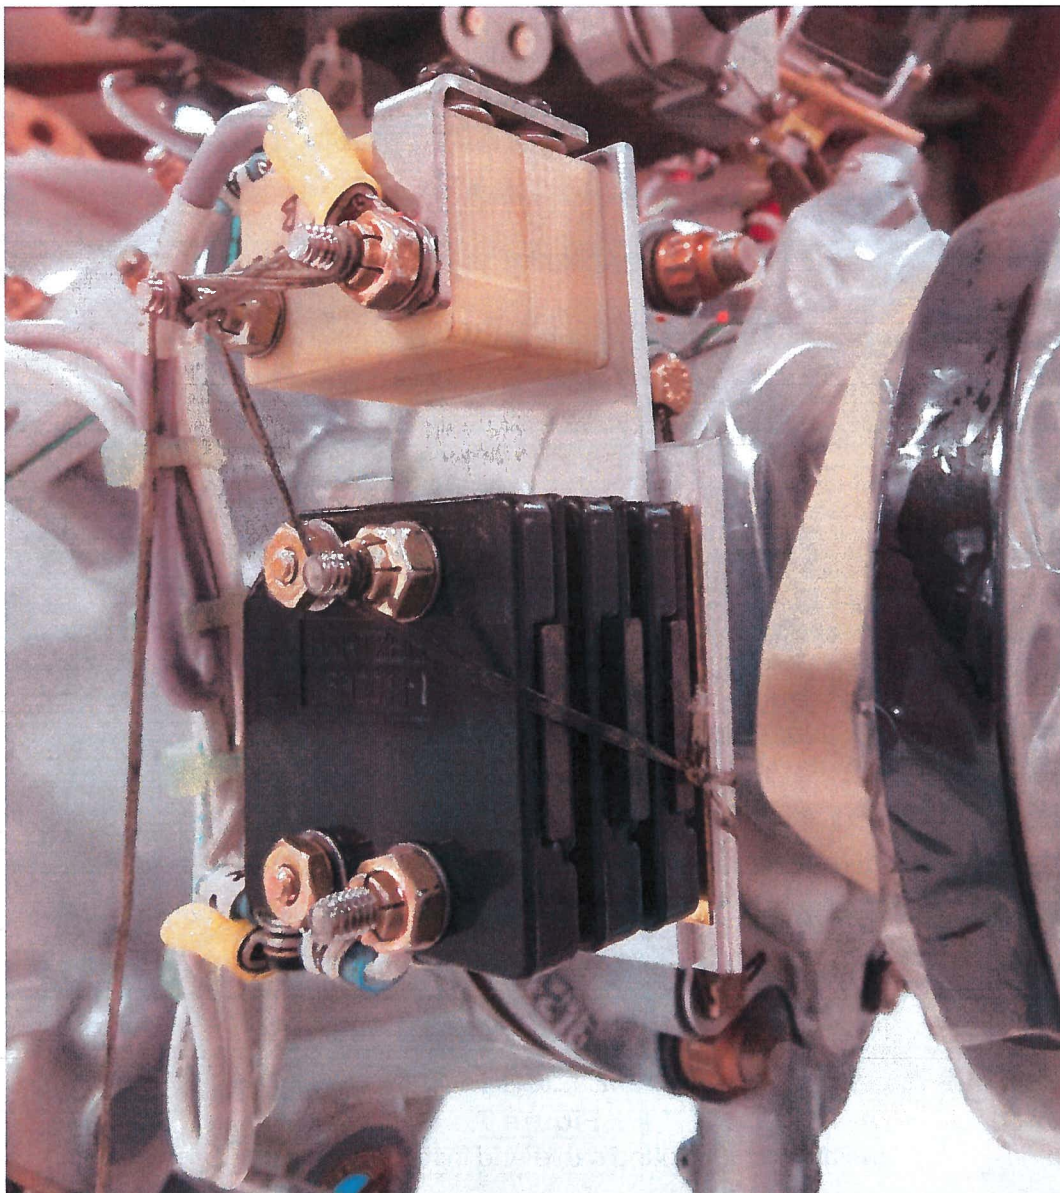

Figure 8
- h) The completed brush block and MOV installation is shown in **Figure 8**. Temporarily tie-back the brushes in the brush block with string to avoid damage during propeller installation.